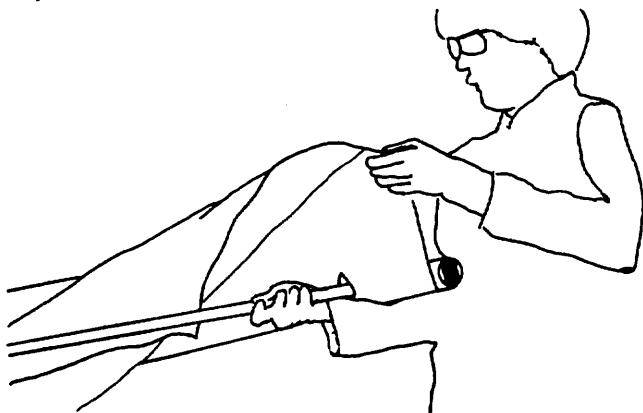

Fig 15
9) Install the washout tips, pushing them into the protruding sleeves until they come up against the clevis pin securing the sleeves in the leading edges. Then rotate the washout tips until you feel them lock into place. (Fig 15) Note: Installation of the washout tips is much easier if done now, before the battens are installed. You may have to pull the washout tip back out slightly to allow the spring button to drop completely into the hole.